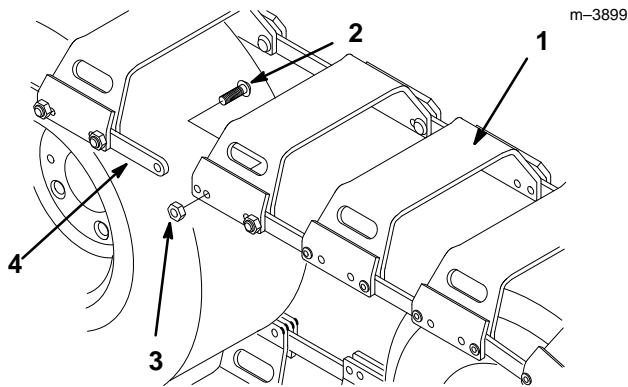

Figure 6
2. Remove the bolts from the connector and reconnect them through the inner holes of the track section to tighten the track (Fig. 6).